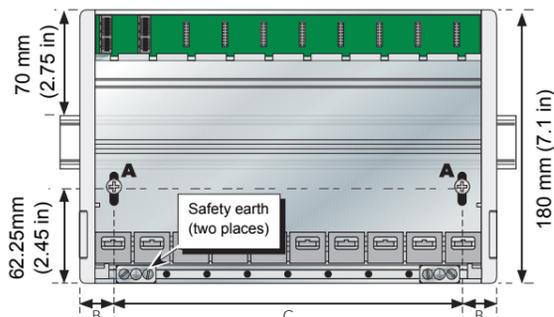

Figure 1 Base unit dimensions
- Hold the base horizontally on the panel and mark the position of the two holes on the panel (for centres, see figure 1, above).